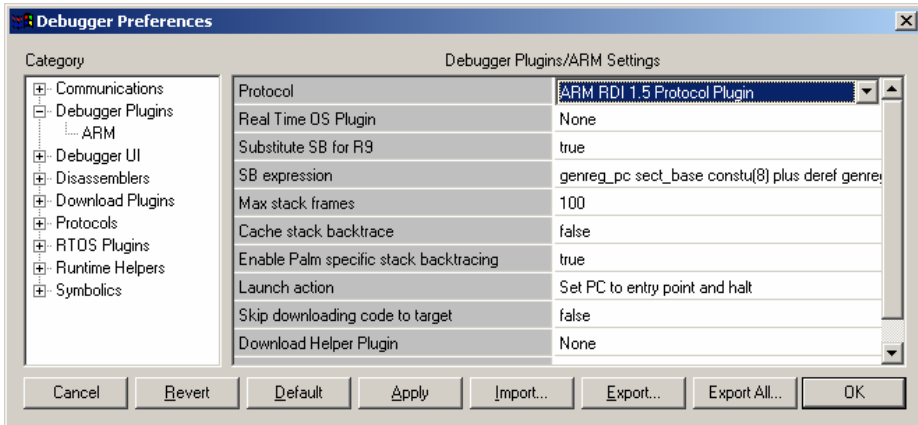

FIGURE 17 Selecting the protocol for the ARM Debugger Plugin.
2. In the Category pane, select ARM under the Debugger Plugins entry. In the Debugger Plugins/ARM Settings pane, select ARM RDI1.5 Protocol Plugin as the protocol. See Figure 17.